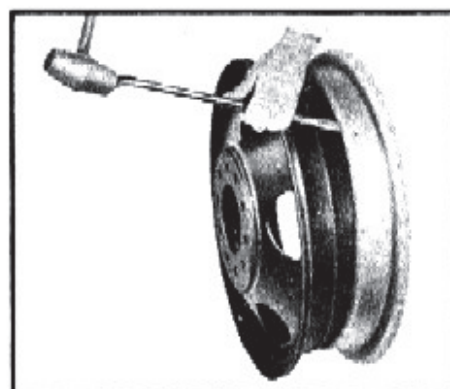

**Fig. 70—Installing Clamp Ring**
5. Place side ring into position on tire and rim; then press the side ring into tire and onto the rim using the tapered end of tire iron until the clamp ring gutter is exposed. Insert end of clamp ring in gutter and work progressively around the tire until the clamp ring is seated in the gutter (fig. 70).